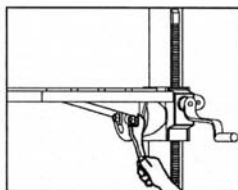

fig.6
4. **Install table and clamp with bolt, Fig. 6.**